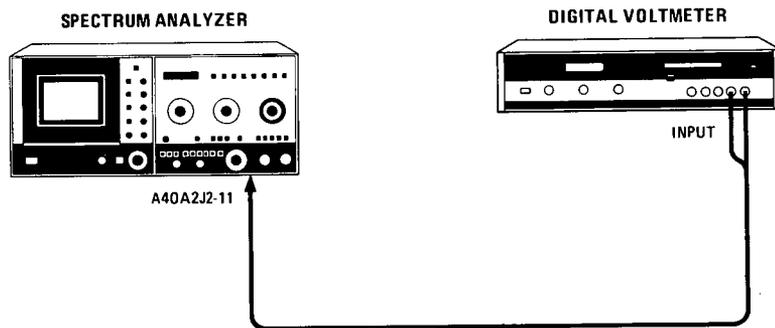

Figure 5-1. Low Voltage Power Supply Check and Adjustment Test Setup
- a. Set LINE switch OFF, disconnect power cord, and remove 8565A bottom cover to gain access to low voltage power supplies. Connect equipment as shown in Figure 5-1.